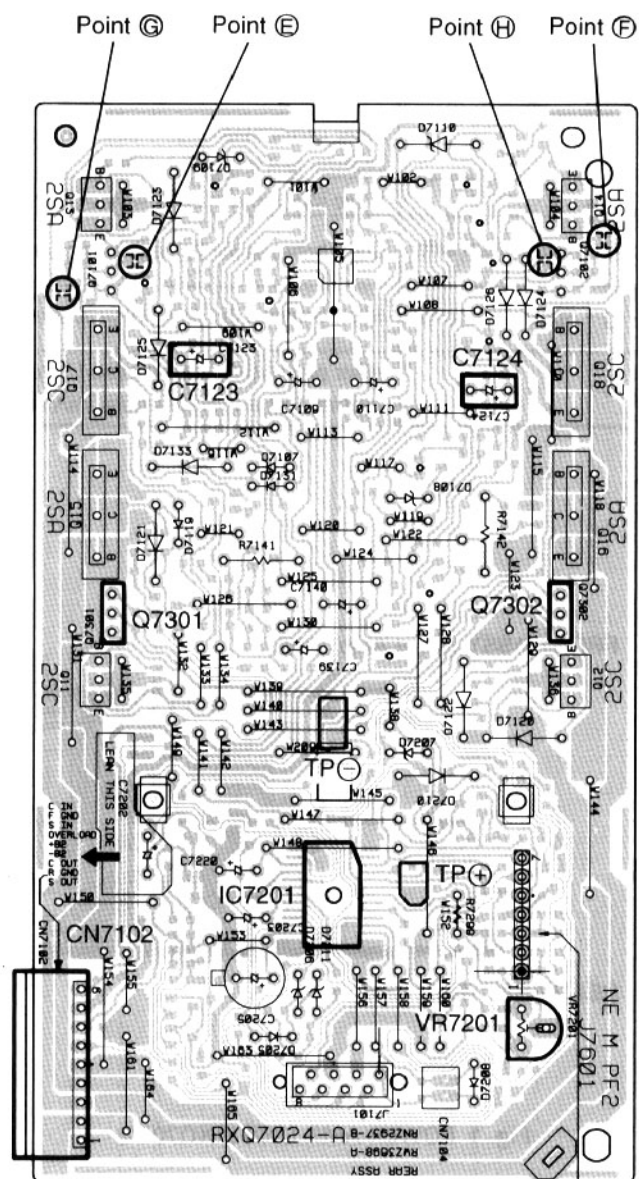

Fig. 6 REAR ASSY
1. Connect a voltmeter between TEMP and TP (or between IC7201 terminals No.7 and 9). (Refer to Figs.6 and 7.)